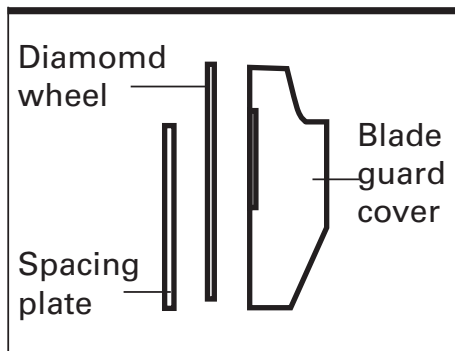

Fig 12
6. Fit the blade guard spacing plate behind the blade and the blade guard cover over the blade. Fix these two parts using the washers and screws provided. See fig12.